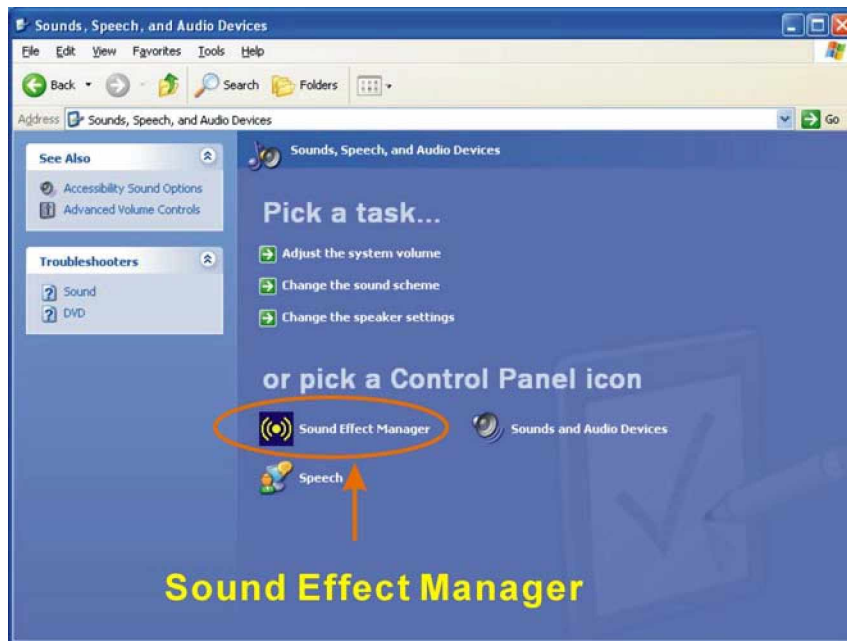

Figure D-3: Sound Effect Manager Icon [Control Panel]
- f The Sound Effect Manager icon in the Control Panel (Figure D-3).